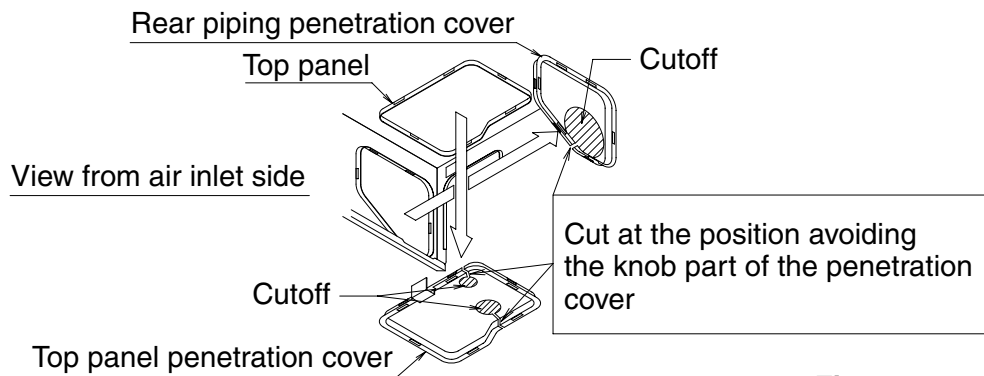
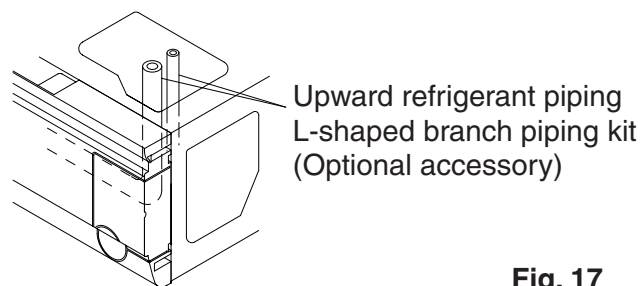
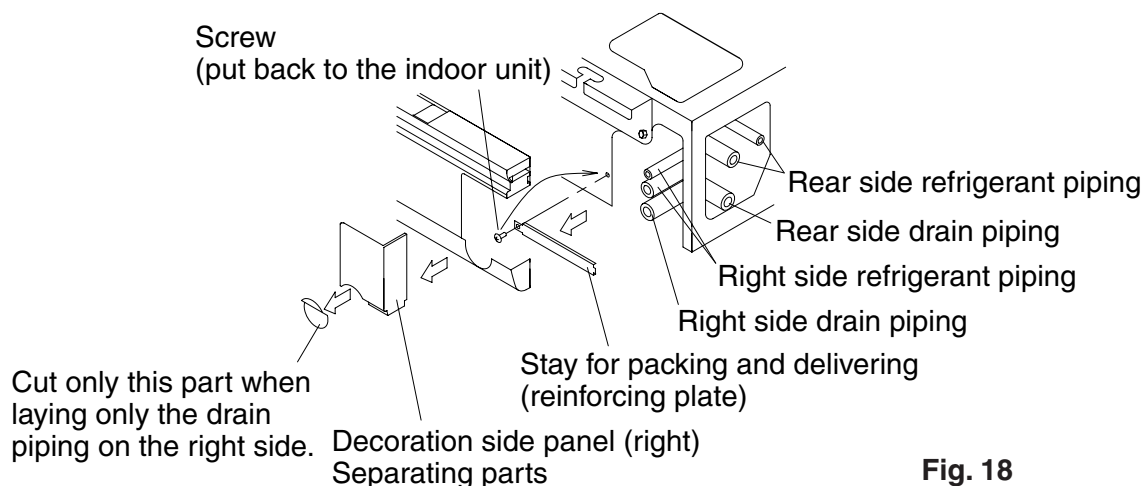
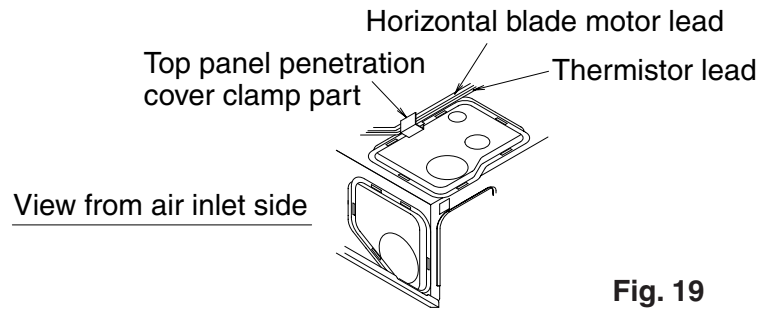

Fig. 16
Fig. 17
Fig. 18
Fig. 19
- Remove the stay for packing and delivering (reinforcing plate) before refrigerant piping work. (Refer to Fig. 18)
(1) For rear side piping
- Remove the rear piping penetration cover, and connect the piping. **(Refer to Fig. 16 and Fig. 18)**
(2) For upward piping
- Remove the top panel penetration cover, and use the L-shaped connection piping kit (optional accessory) to conduct piping. **(Refer to Fig. 16 and Fig. 17)**
(3) For right side piping
- Remove the stay for packing and delivering (reinforcing plate) at the right side, and put back the screw to the original position of the indoor unit. **(Refer to Fig. 18)**
- Open the knockout hole at the decoration side panel (right), and connect piping. **(Refer to Fig. 18)**
- After piping is finished, cut the removed penetration cover along the shape of piping, and install. Also, for top panel penetration cover, as it was before removed, put the horizontal blade motor lead and thermistor lead through the clamp of the top panel penetration cover and fix. **(Refer to Fig. 16 and Fig. 19)** When doing this, block any gaps between the piping penetration cover and the piping using putty to prevent dust from entering the indoor unit.
(1) Carry out drain piping.
- Drain piping can be connected from the following directions: For right rear/right side, refer to **Fig. 18** of “6. REFRIGERANT PIPING WORK”, and for left rear/left side, refer to **Fig. 21**.